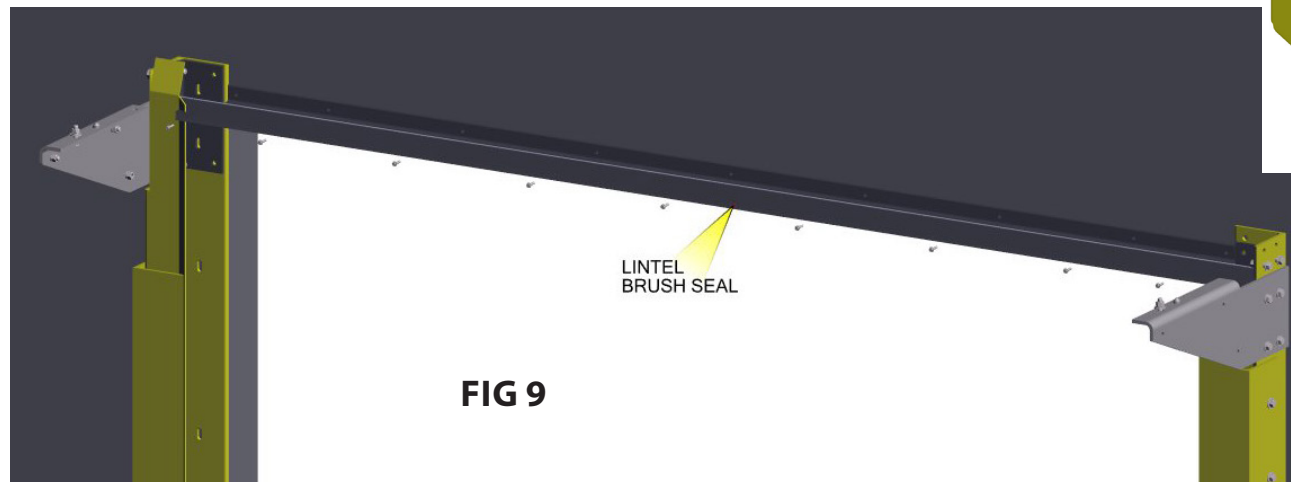

FIG 9
- Attach the lintel assembly to the lintel as shown in **FIG 9**. Lintel seal should be flush with the bottom of the lintel.